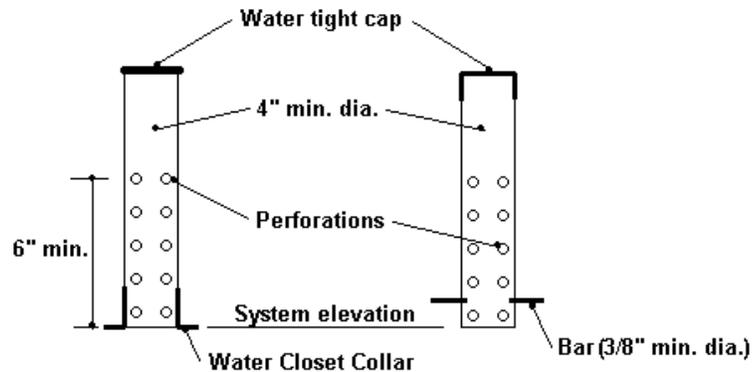

Figure 2 Observation pipes
6. Install the required observation pipes with the bottom 6 inches of the observation pipe perforated. Installations of all observation pipes include a suitable means of anchoring. See Figure 2.